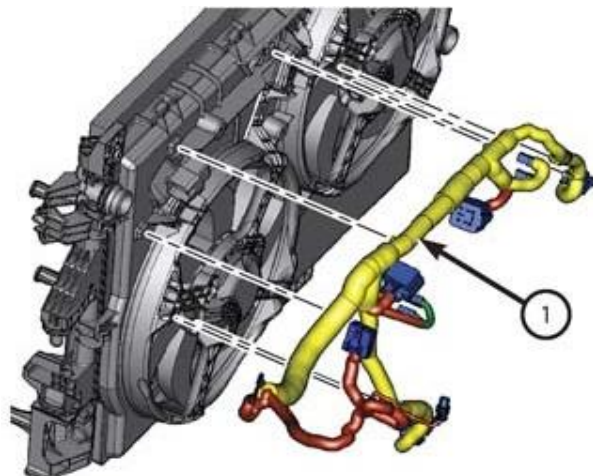

Figure 7 – Wire Harness Retainers
- From above or below as necessary, separate the wire harness (1) retainers from the cooling fan shroud (Figure 7).
- From below or above as necessary, install the wire harness (1) retainers to the cooling fan shroud (Figure 7).